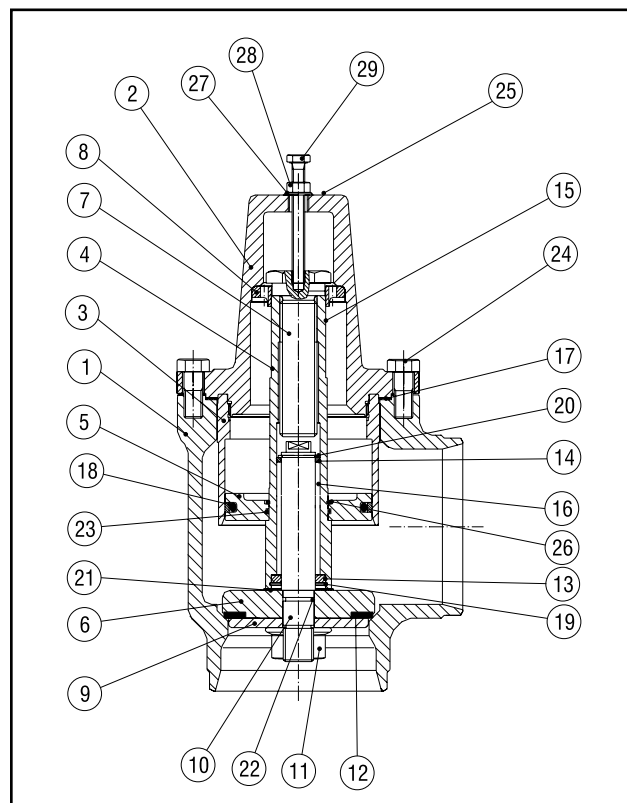

Figure 35 - Cold-Start Valve
WARNING Inside the valve (see Figure 35) there is a very heavy, tight spring (15). Provided the valve is intact, the spring presents no danger when dismantling. The spring is compressed with a large bolt (7). If it is necessary to repair the valve, it can be dismantled as follows:
1. To manually open the valve, mount the hexagon screw (29), the hexagon flange nut (28) and the nylon ring (27) as shown. Tighten the nut (28) a few turns, in order to redraw the valve cone from the seat.